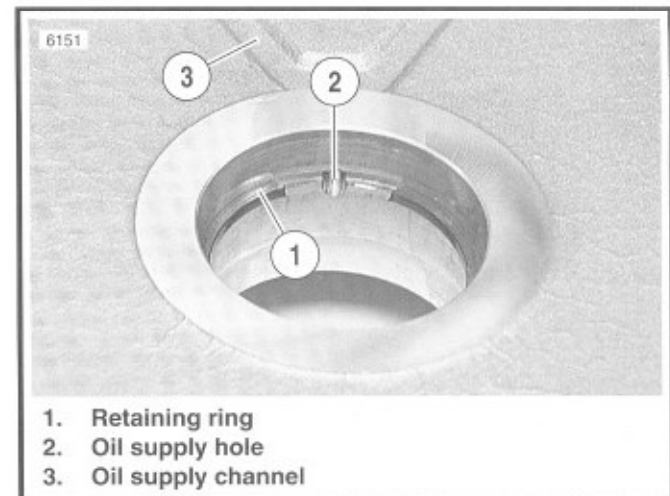

Figure 3-96. Retaining Ring
1. See Figure 3-96. The original retaining ring (1) is left in place to avoid damaging the bearing bore of the left crankcase half. Verify that gap in retaining ring (1) is aligned with oil supply hole (2) in left crankcase half bearing bore.